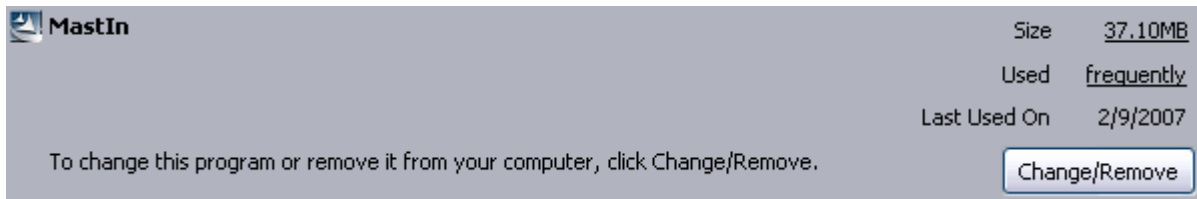

Figure 12 — MastIn item in Add/Remove Programs control panel
- On the *Change or Remove Programs* tab/section, find *GUYMAST-G* in the main listing, click on it, and press the *Change/Remove* button (Figure 12 below).